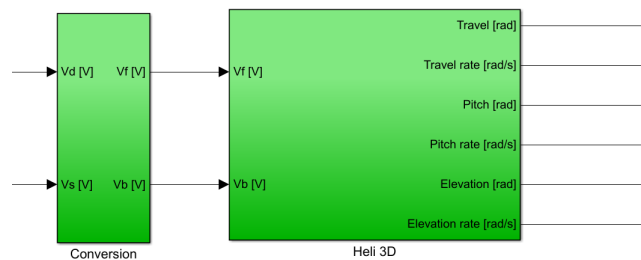

Figure 1.4: Voltage signals entering helicopter block.
- No power from one or both of the rotors. Check that you have voltage signals entering the helicopter block, initially named “Heli 3D”, see Fig. 1.4. If the signals are connected the error is most likely a loose, broken or disconnected power cable. Contact the teaching assistant. Do not try to repair this yourself.